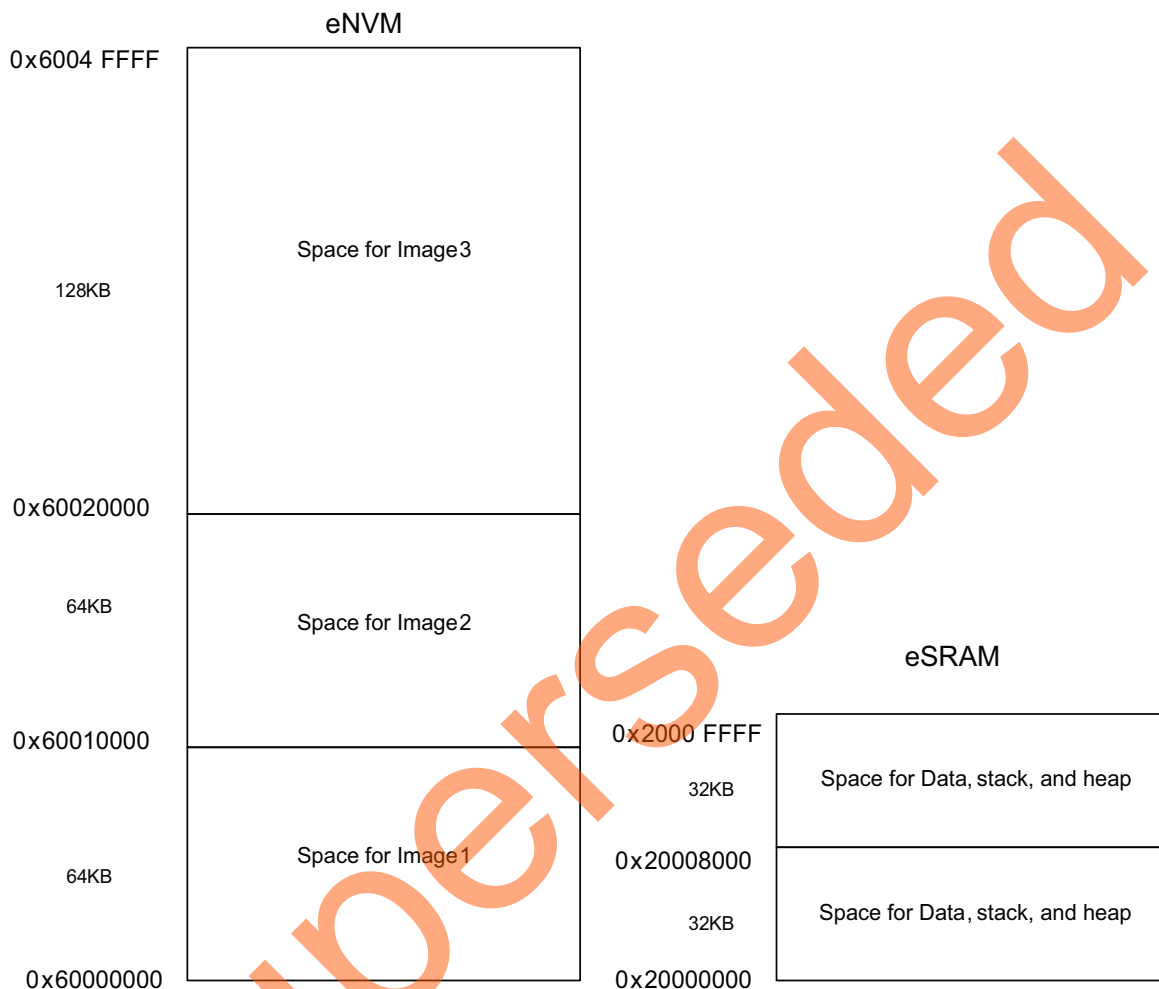
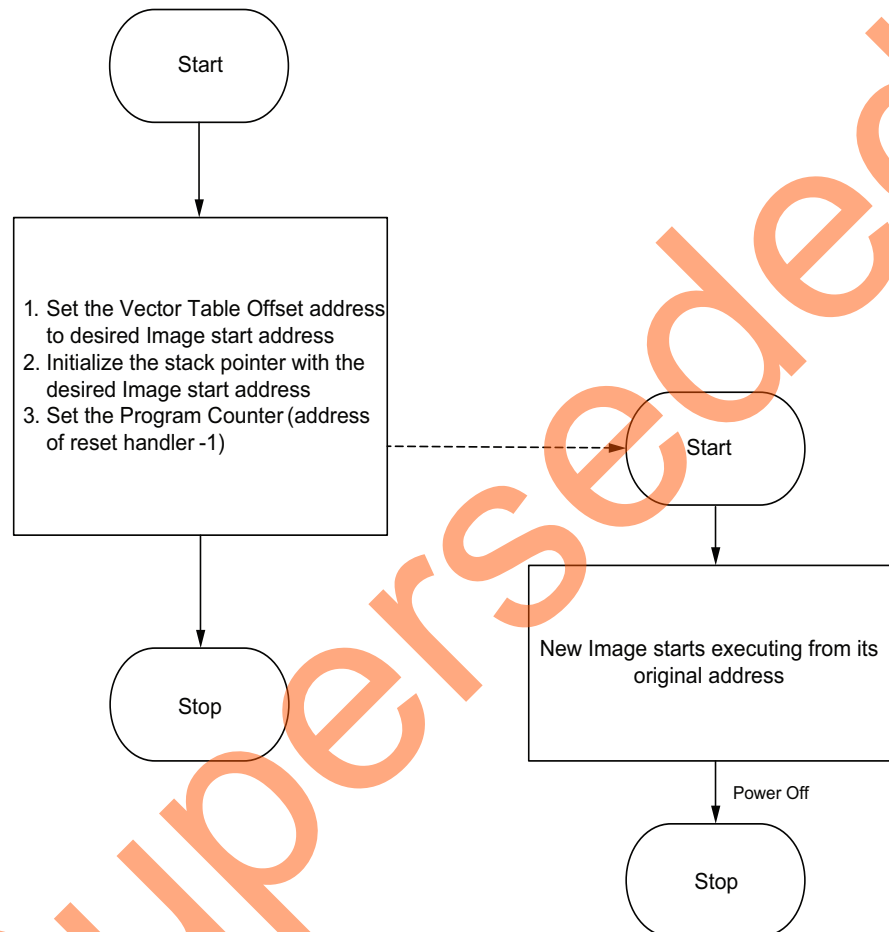
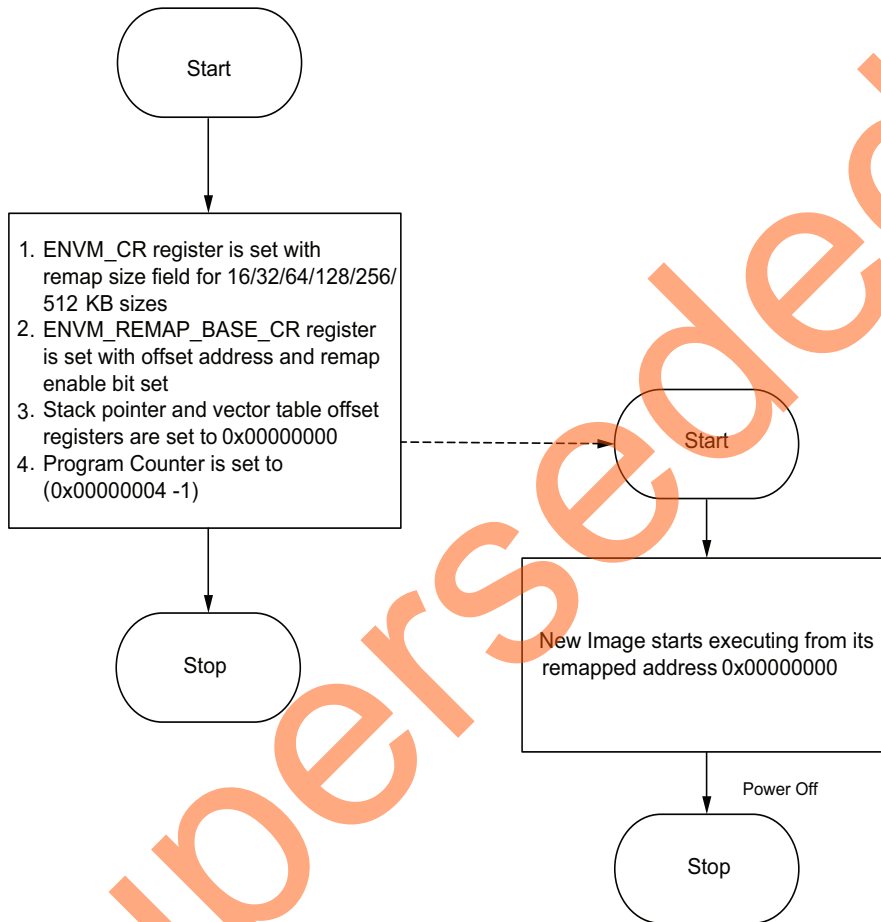

Figure 8 • Example Scenario of Multiple Executable Images in eNVM
Figure 9 • Logic for Moving the Execution Control to New Image in eNVM without Remapping
Figure 10 • Logic for Moving the Execution Control to New Image in eNVM with Remapping
Figure 8 shows an example scenario with multiple executable images in the eNVM regions.
In the example scenario (as shown in Figure 8), there are three images, which can be remapped to the starting address of the Cortex-M3 processor code space, or can be made executable for the Cortex-M3 processor. To create the independent executable images with the required memory map, it is required to create the linker scripts with the required memory map. The linker scripts are provided in the "Appendix A: Design Files" section. Once the executable images are created for the required memory map in Production mode, these images are added in the programming file using the eNVM clients in the Libero® System-on-Chip (SoC) hardware (HW) creation flow.
- **Without remapping:** By default, the eNVM base address 0x60000000 is remapped to the starting address of the code space of the Cortex-M3 processor. The vector table address of the desired image can be set by using the vector table offset register in the system registers, and pointing the stack pointer (SP) and program counter to the reset handler address of the desired image. This allows the Cortex-M3 processor to execute the new image. The eNVM offset address should be used in the linker script generation for the executable images in this approach. This approach is explained in the flow chart shown in Figure 9.
For example, for the memory map of the different images explained in the Figure 8, the images are built with the base address as shown in Figure 8. If you need to run the Image 2 while Image 1 is running, use the following steps (explained in Figure 9):
- **With remapping:** In this approach, the new image address can be remapped to the starting address of the code region of the Cortex-M3 processor by using the ENVM_CR, ENVM_REMAPSIZE, and ENVM_REMAP_BASE_CR registers. As the new image address is remapped to the bottom (0x0000_0000) of the Cortex-M3 processor code region, the linker scripts take care of building the images from the bottom (0x0000_0000) code region. The eNVM offset address should not be used in this approach. This approach is explained in the flow chart shown Figure 10.
For example, for the memory map of the different images explained in the Figure 8, the images are built with 0x00000000 as base address. If you need to run the Image 2 while Image 1 is running, use the following steps (explained in Figure 10):